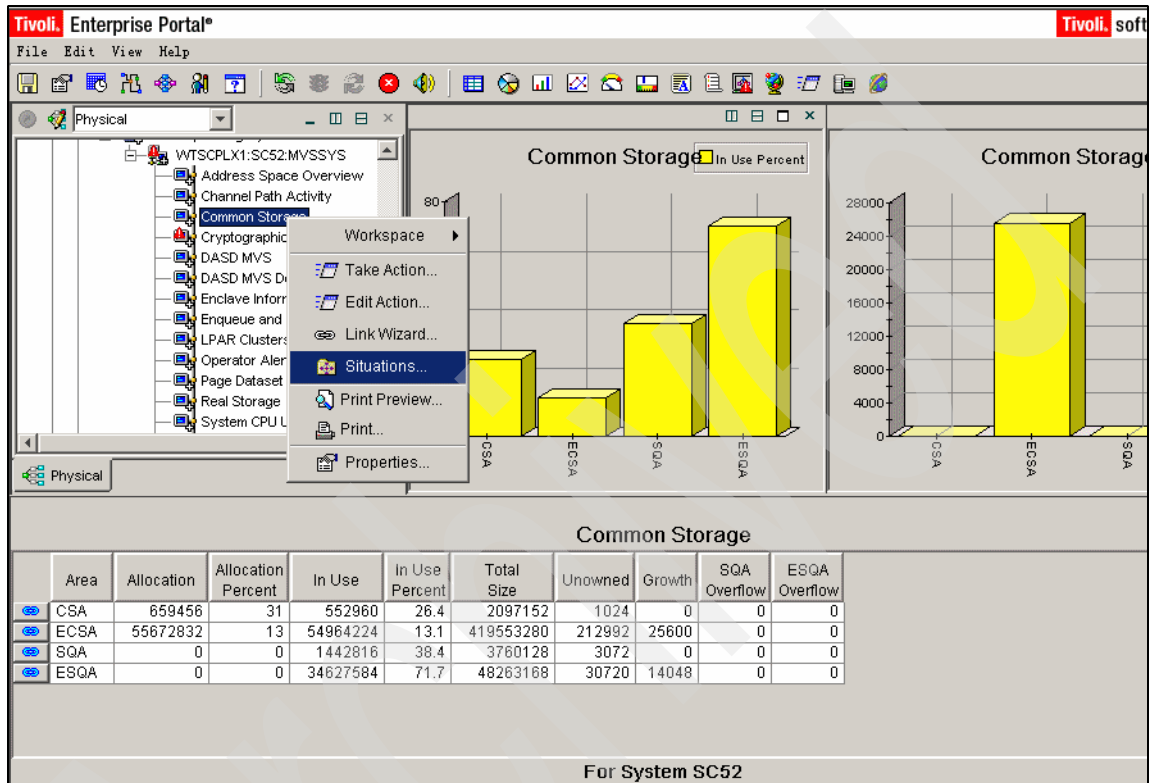

Figure 6-20 Create situation to monitor common storage
1. Navigate to the Common Storage workspace for SC52. In the workspace, access the Situation editor by right-clicking the **Common Storage** navigator item and selecting **Situations** as shown in Figure 6-20.